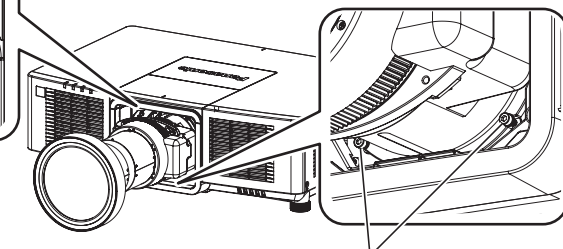

Fig. 7
- When attaching the Zoom Lens (Model No.: ET-EMU100) to the projector, use the ball point hex driver supplied with the Zoom Lens (Model No.: ET-EMU100) to fix the lens to the screw holes (4 locations) around the projection lens. (Fig. 7)